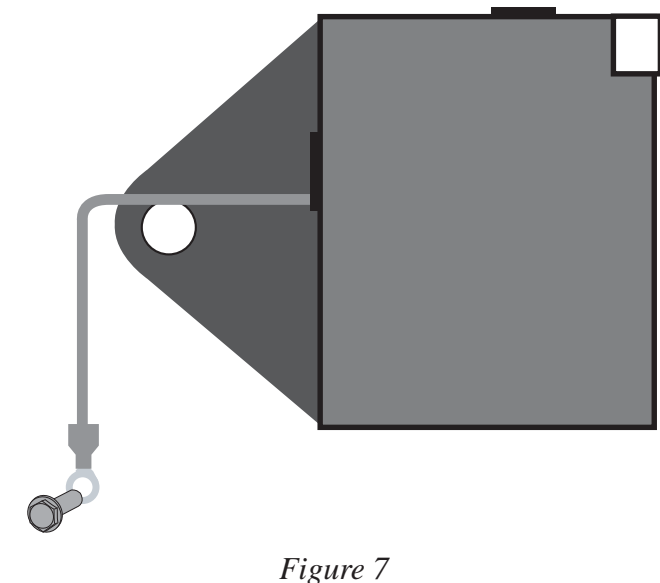

Figure 7
8. Attach a ground terminal to the small white wire coming out of the back of the ECU/Display Connector (Figure 7).